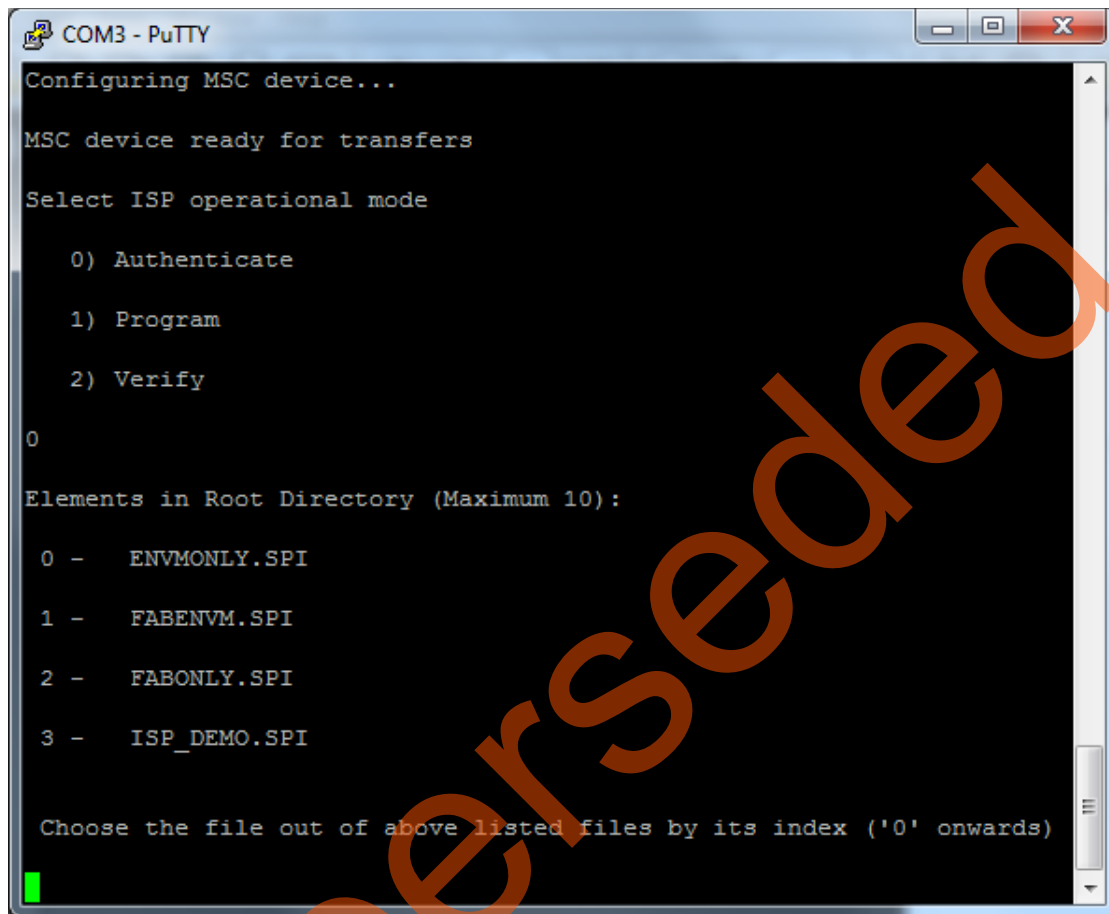

Figure 9 • Available Files in USB Mass Storage Device
14. On selecting the operation mode, the files in the USB storage device are displayed as shown in Figure 9.